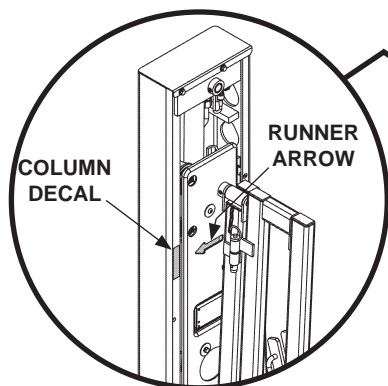
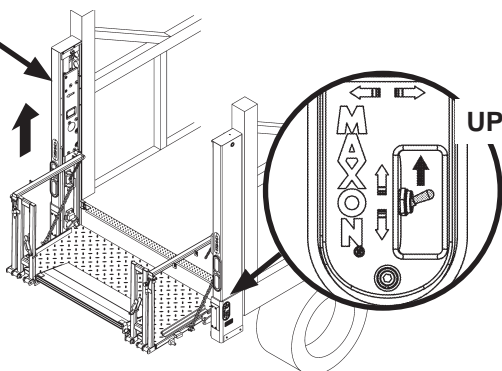

FIG. 24-1B
FIG. 24-1A
1. Use the column switch to raise (**UP**) platform (**FIG. 24-1A**) until runner arrow and column decal on LH column are aligned (**FIG. 24-1B**).